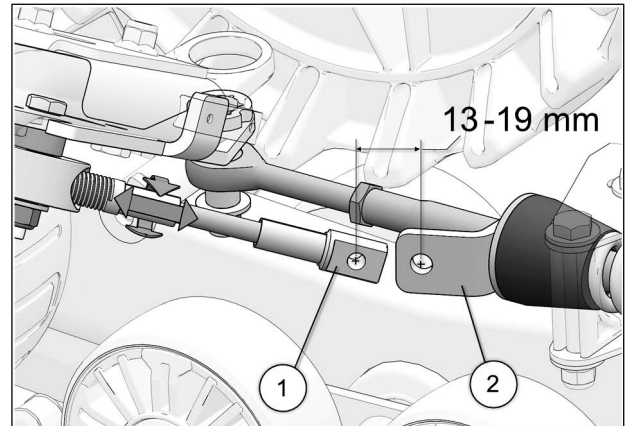

Fig. 31
20. Turn the vehicle's steering wheel to its maximum point of travel on the left. While maintaining pressure on the steering wheel, turn threaded rod to adjust length of cable. See Fig. 31
21. Position cable end hole (1) 13-19 mm short of support plate mounting hole (2). See Fig. 31